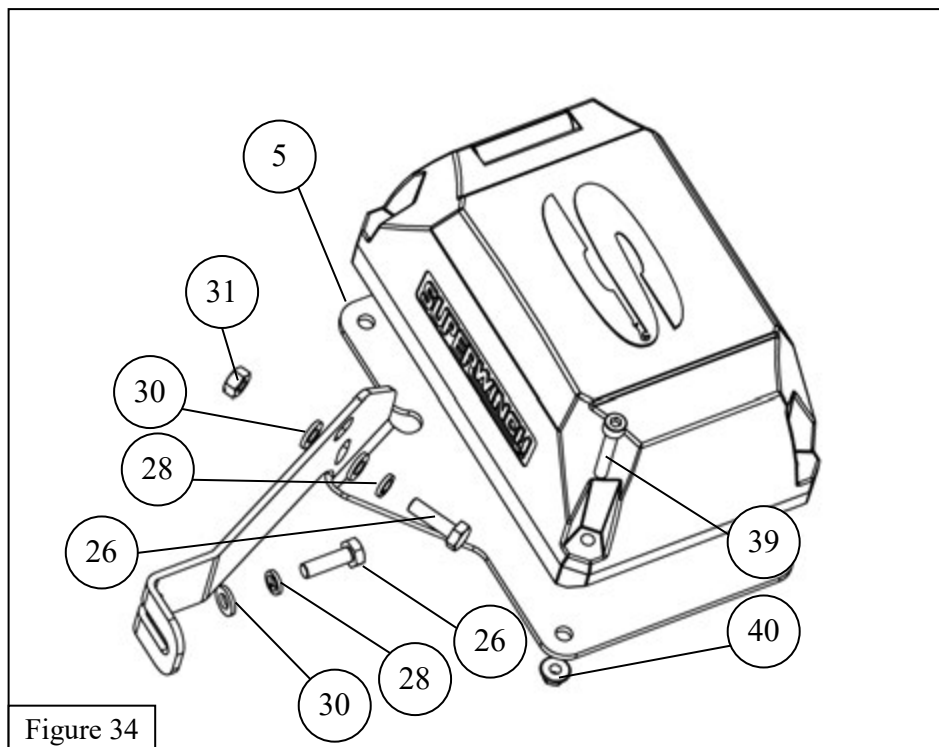

Figure 34
63. Attach the control box to the control box bracket (**item 5**) using the M5 hardware (**items 39 and 40**). See **Figure 34**.